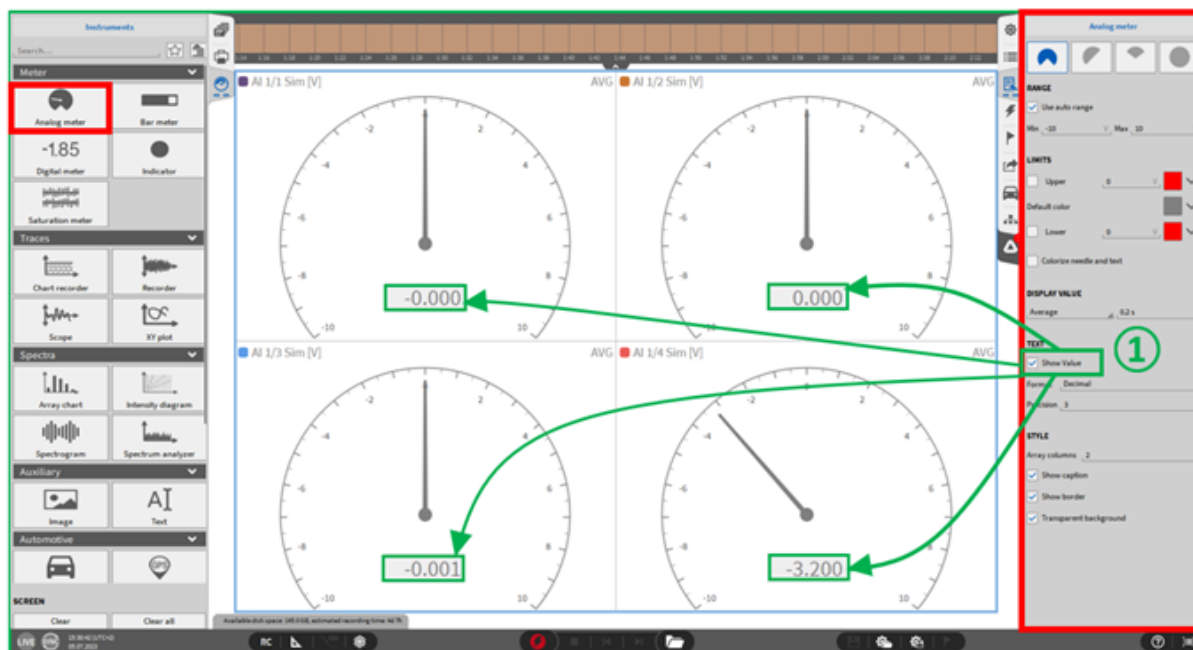

Fig. 8.6: Analog meter - Overview
- Show value: If the checkbox for “Show value” is activated (see ① in Fig. 8.6), the value is additionally shown in digital form in the analog display.